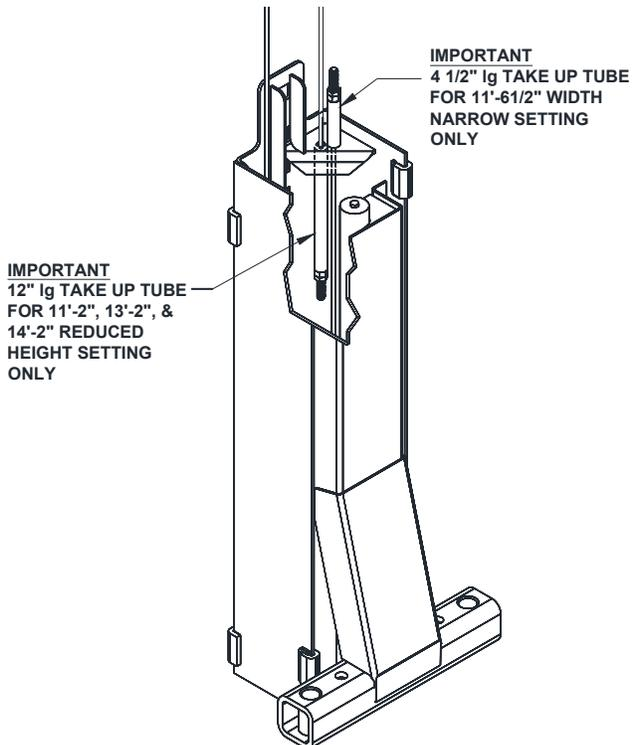

Fig. 9a – Cable Assembly
- 24) Mount synchronizer cables to carriages as shown in **Fig. 9a & 9b**. **Note: The 4 1/2" & 12" take up tubes are to take up the sync. cable slack when the lift is in the Narrow or Reduced Height setting. These take up tubes cannot be stacked together. The 4 1/2" take up tube can be installed inside the carriage if the 12" take up tube is not being used.**